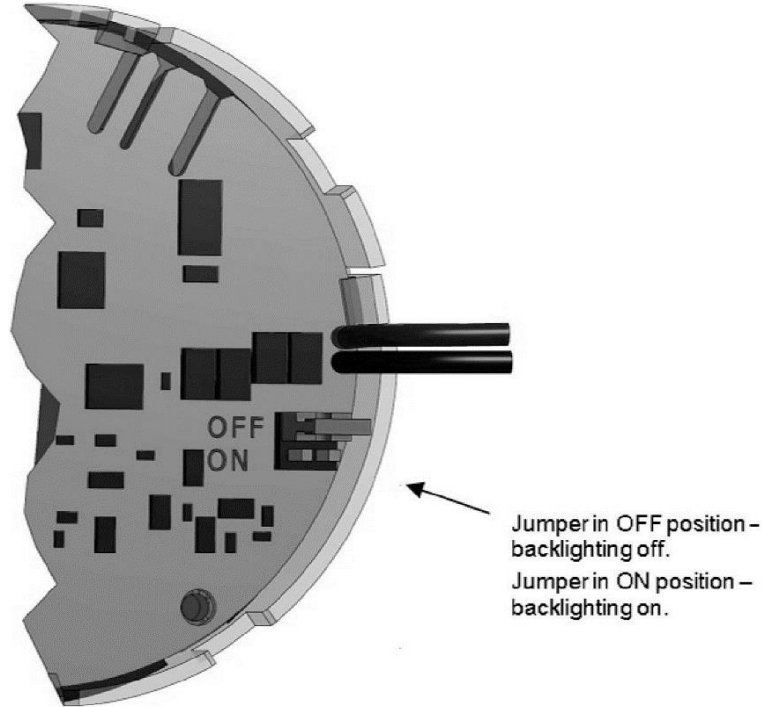

Figure 3. Backlighting jumper view at transmitter electric board (unit display back side).
* Turning on the display backlight in the PCE-28 converters with ALW and ALM type connectors increases the minimum supply voltage for all versions by 3 V. The way to turn the backlight on or off is shown in → Figure 3
Backlight (available for versions with display: ALW or ALM) – local display is equipped in backlight which can be switched on or off depending on needs. Turn on the backlight increases the minimum supply voltage for all version of 3V. Enable or disable the backlight is possible using the jumper after removing the back cover of the display. Enable or disable backlight is shown in Figure 3.